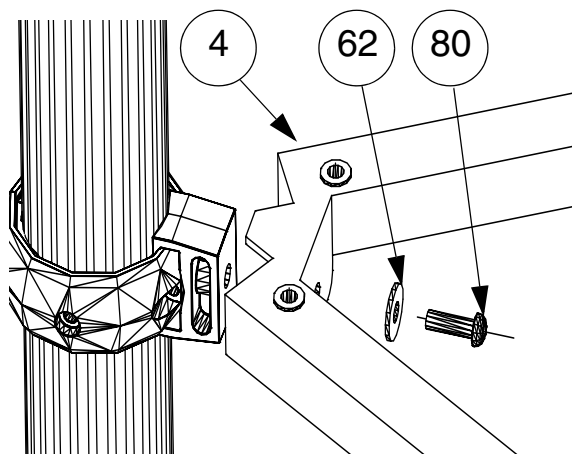

FIG.17
- 36) Connect Deck Frame (item 4) at 900 Deck Clamp Height using 1 off 1/2" x 1" BHCS Fixing (item 80) and T5 washer (item 62) via Deck Support Casting (item 46). See FIG 17 & 27.
- 37) Place 1 off Straight Leg - 900 Deck (item 2) into appropriate foundation and connect to Deck Frame (item 4) using 1 off 1/2" x 1" BHCS Fixing (item 80) and T5 washer (item 62) via Deck Support Casting (item 46) at the 900 Deck Clamp Height.
- 38) Shim leg as required to ensure it is plumb and square and orientated correctly with the welded F.S.L mark at the correct level. See FIG.17, 28 & 29.